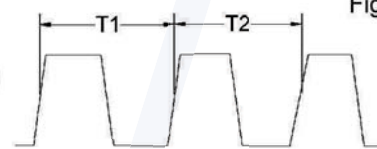

Figure 2
The Cycle to cycle jitter is the maximum difference in time between several measured periods. Usually a minimum of ten (10) cycles is used where T1 to T10 were recorded. See fig. 2.